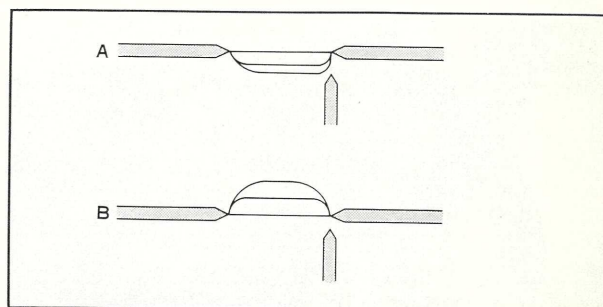

Fig. 3-7 Three-point spark test
Measure the spark gap, making a spark condition as shown in Fig. 3-7 (A).